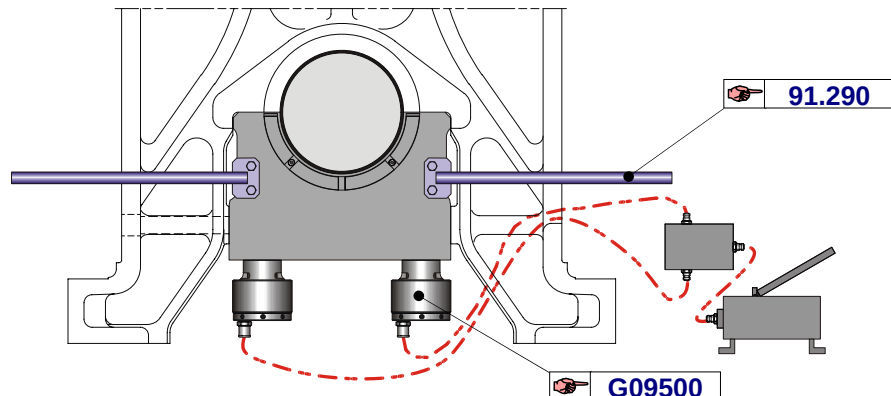

Fig. 2 Mount the lifting device (리프팅 장치 설치)
- Install lifting device and hydraulic tool set on two nuts of main bearing cap studs as shown fig.2.